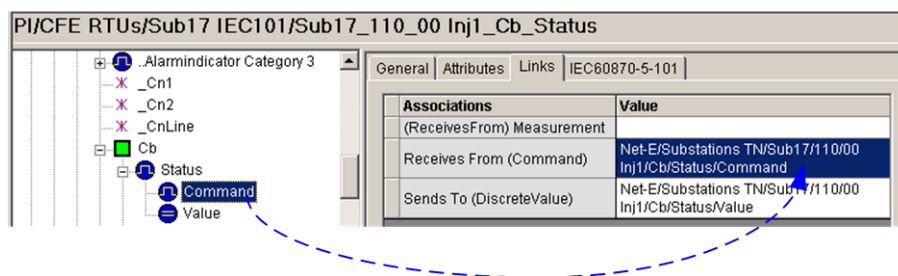

Figure 1-2.18: Linking a Network 'Command' Instance to the RTU Data Point
If the Circuit Breaker (CB) is tele-controllable: also drag & drop the instance 'Network/Substation/... CB/ Status/Control' into the reference field **'(ReceivesFrom) Command'**, see Figure 1-2.18